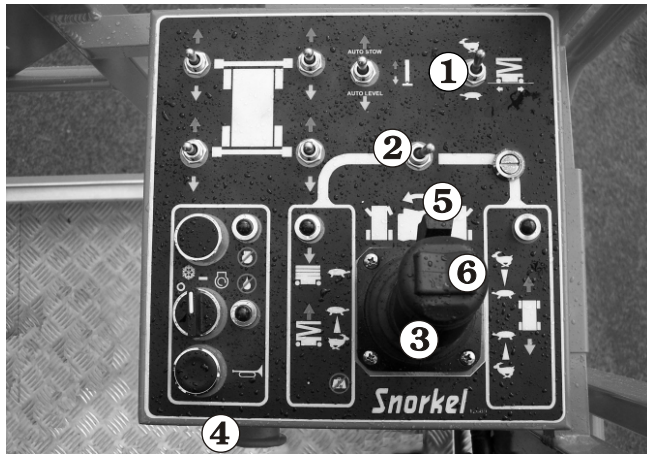

Figure 8.18
2. Set the **Speed** switch ① to turtle (slow) (see Figure 8.18) if you are going to be driving close to other objects or need to move the S3970RT / S3370RT / S2770RT very slowly for other reasons.
3. Set the **Lift/Drive Selector** switch ② to drive (right) (see Figure 8.18).
4. Squeeze and hold the **Safety Control** ⑤ against the **Joystick Controller** ③ (see Figure 8.18).
5. Push the **Joystick Controller** ③ (see Figure 8.18) slowly forward or pull it slowly backward, depending on which way you want to go. The further you move the joystick the faster the S3970RT / S3370RT / S2770RT moves.
6. To make a right or left turn, press and hold the **Steering** rocker-switch ⑥ on top of the **Joystick Controller** ③ (see Figure 8.18).